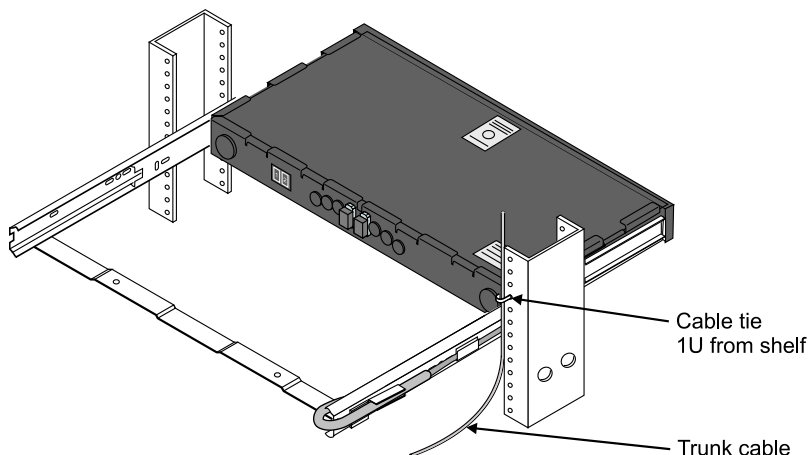

Figure 4. Route the Trunk Cable to the Rack
1. Pull the trunk cable to the rack and determine the best way to route the cable to the shelf (from above or below). Refer to Figure 4.